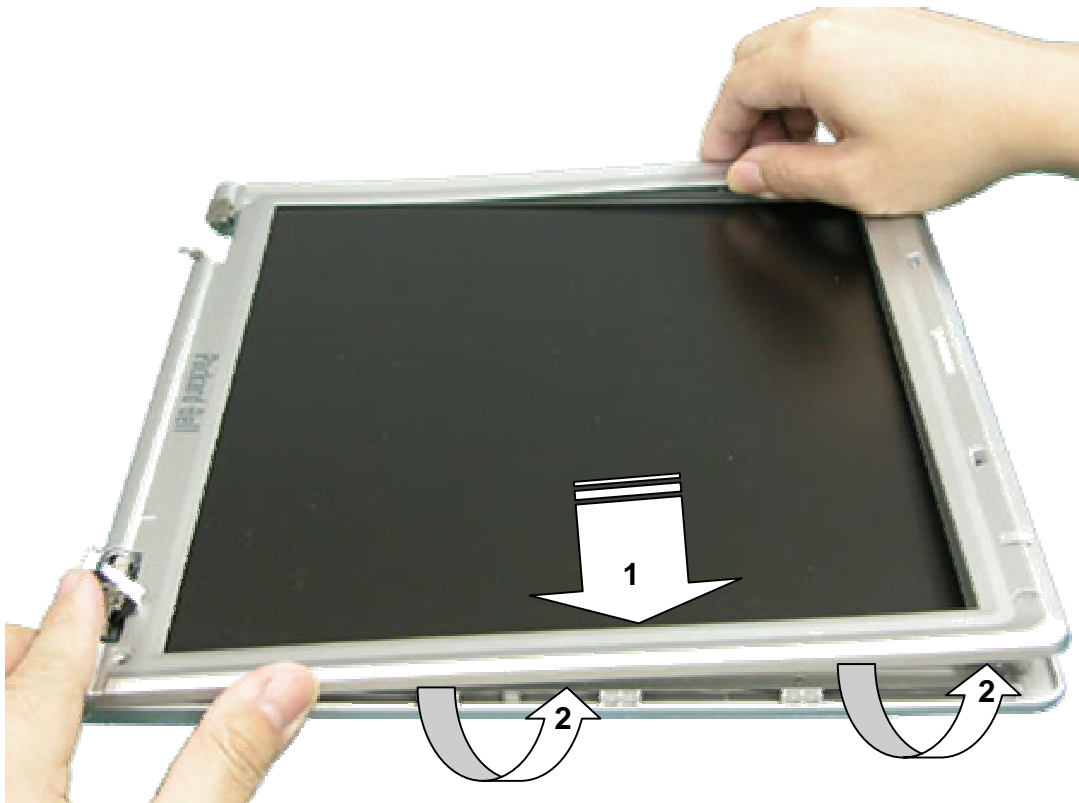

Fig. 16 Removing the LCD Bezel
3. Carefully release LCD Bezel form LCD module as shown in Fig. 16